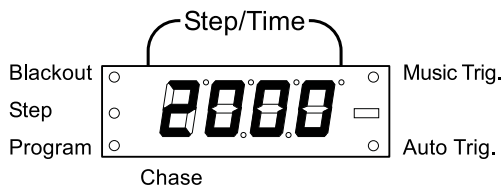

Fig.6
2. Press the **[CHASE]** button (1~6) for the corresponding chase you wish to edit (fig.6).